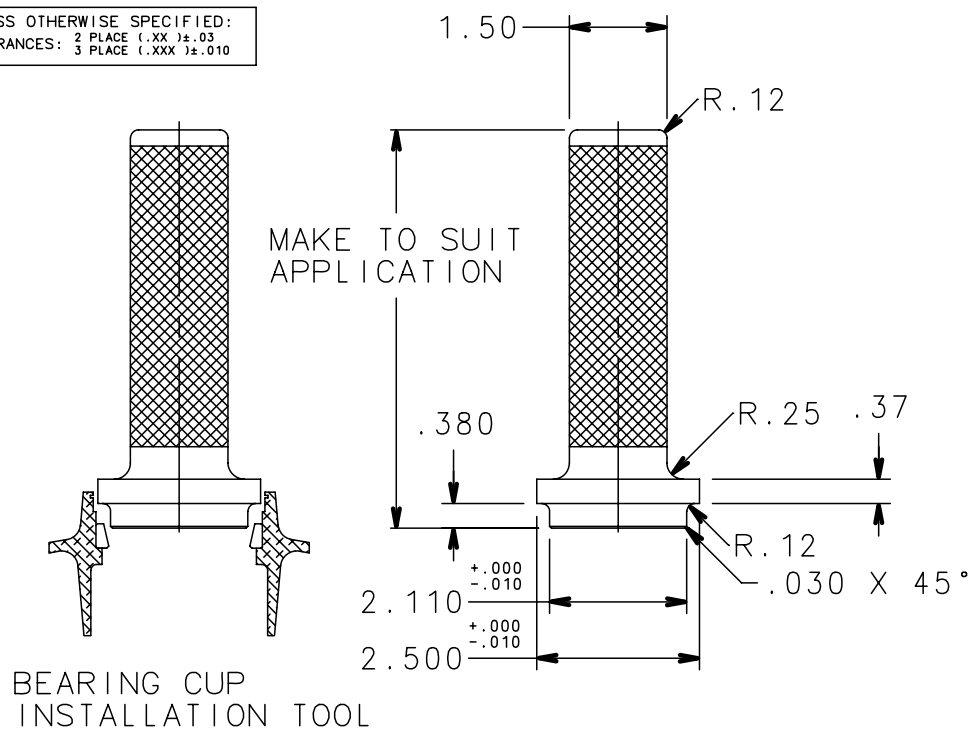

FIGURE 503
- B. Remove wheel half from heat source and place wheel half on a support block. Remove cup from bore by tapping the cup out evenly with a fiber or phenolic punch, or fabricate bearing cup removal tool (See Figure 503) and use by hand or adapt to arbor press. Exercise extreme care to avoid raising burrs in the hub bore.
- H. Press the bearing cup into the coated housing making sure the backing surface of the cup mates to the shoulder of the bearing bore. Avoid cocking the cup during installation. (Installation tool for cup is pictured in Figure 503)